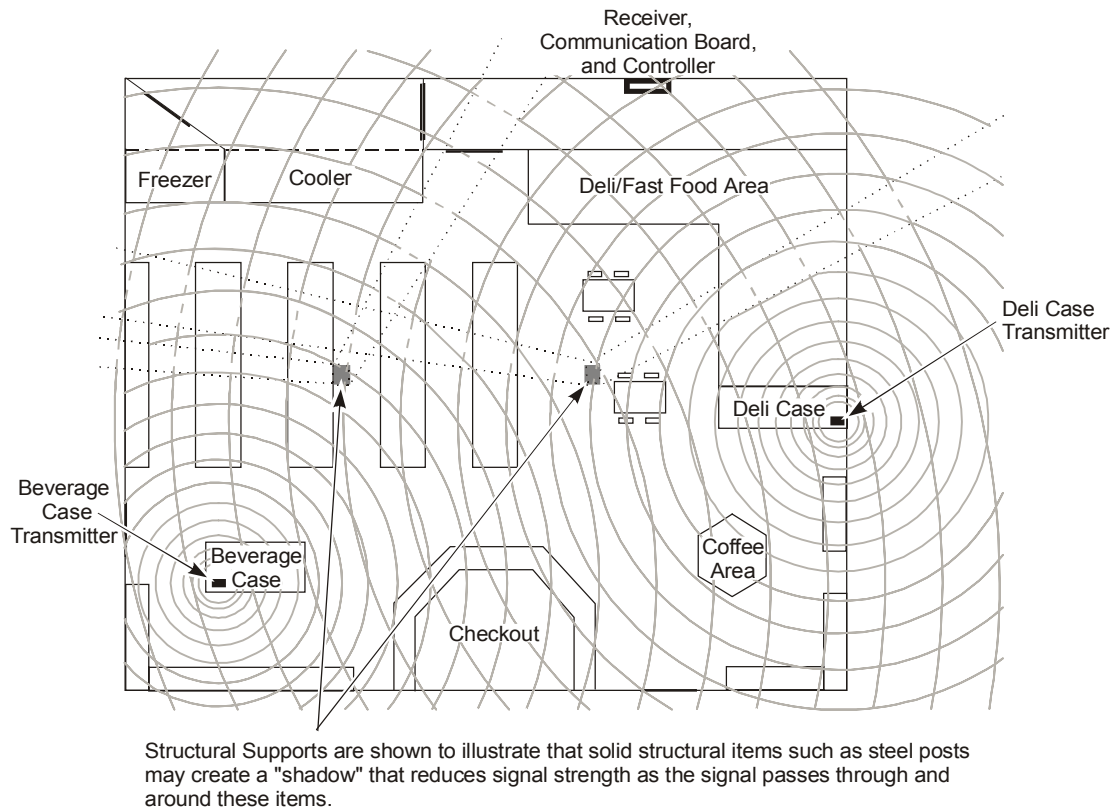

Figure 2: Illustration of Wireless Temperature Transmission in a Convenience Store
Refer to Figure 2 and the guidelines below when positioning the transmitters and sensors.
- To minimize interference, mount the transmitter as high as possible and in “line of sight” with the receiver. Make sure no solid metal, concrete, or stone objects block the signal path to the receiver. See Figure 2.